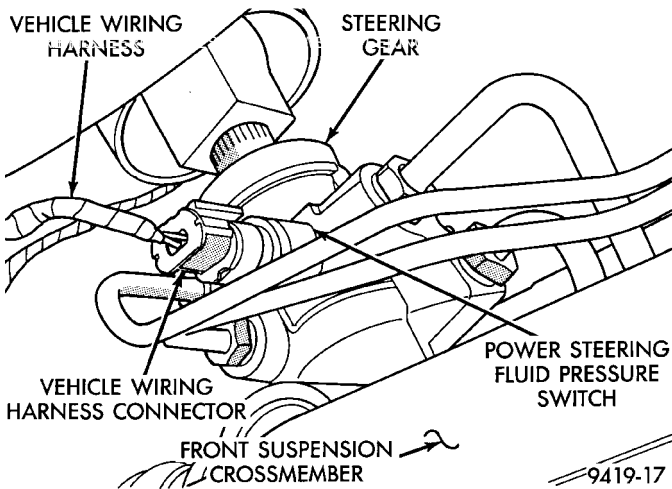

Fig. 8 Power Steering Fluid Pressure Switch Electrical Connector
(7) If equipped, remove vehicle wiring harness connector from the power steering fluid pressure switch (Fig. 8).
(6) If the vehicle is equipped with power steering, install vehicle wiring harness connector onto power steering fluid pressure switch on steering gear assembly (Fig. 8). Be sure locking tab on wiring harness connector is securely latched to pressure switch.